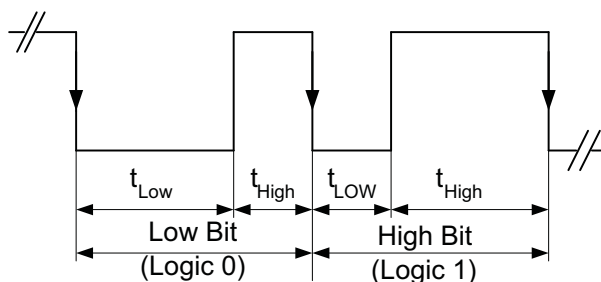

Figure 16. EasyScale Bit Coding
- **High Bit:** $t_{HIGH} > t_{LOW}$, but with t_{HIGH} at least twice the duration of t_{LOW} , see Figure 16.
- **Low Bit:** $t_{HIGH} < t_{LOW}$, but with t_{LOW} at least twice the duration of t_{HIGH} , see Figure 16.